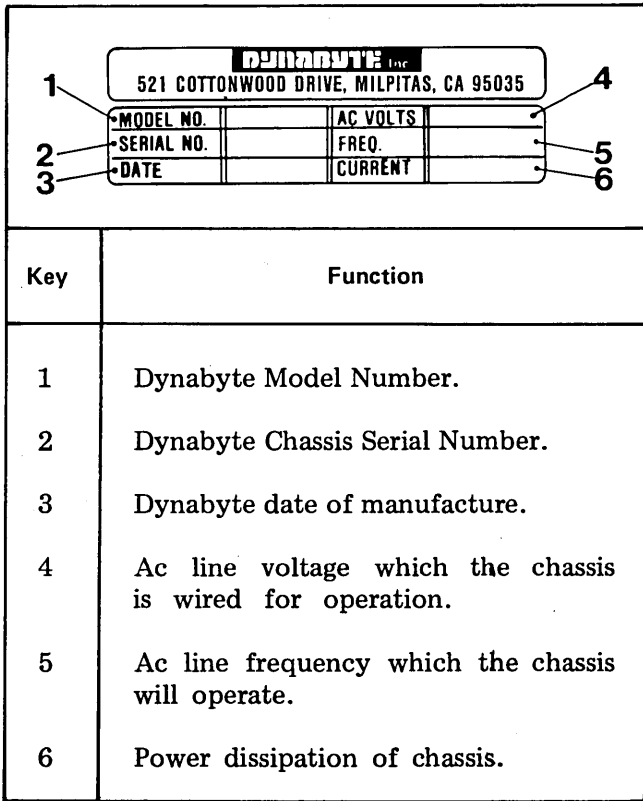

Figure 6-1 – Dynabyte Identification Plate
1	<p>Call Dynabyte Customer Support by telephone and provide the following information:</p> <ol style="list-style-type: none"> (1) The nearest Dynabyte Authorized Service Center name and number if known. (2) The Dynabyte Model Number and Serial Number of the equipment. Figure 6-1 illustrates the Dynabyte Identification Plate for equipment. Normally this is located at the rear of the equipment.